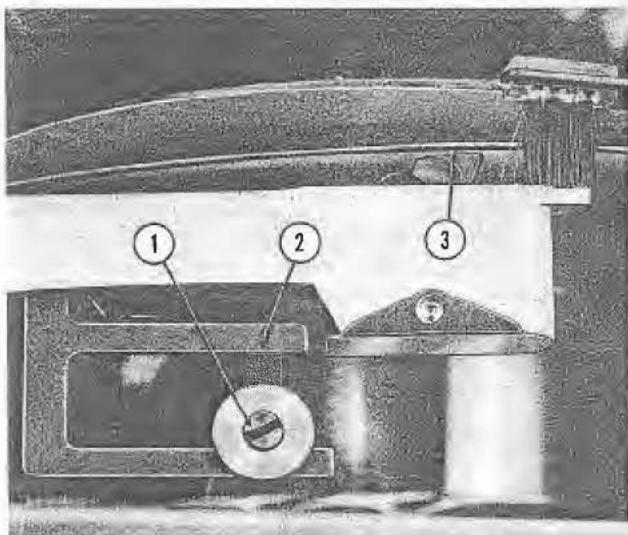

Fig. 77. TONE ARM FEED-IN ADJUSTMENT
(1) The tone arm feed-in adjusting screw (Fig. 77, Item 1) is set at the factory using fixture X42226 (Item 3) and should need no adjustment. However, when a readjustment is required it may be accomplished by advancing the record changer in its cycle until a record is clamped on the turntable. Turn the service switch off before the needle contacts the record and adjust the feed-in screw (Item 1) to position the needle in the feed-in groove of the record. The setting should be 2-5/8" to 2-11/16", measured from the outside circumference of the turntable pilot to the needle, to conform with R.L.A.A. standards.